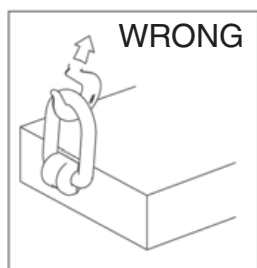

Figure 2
- Apply partial load and check proper alignment. There should be no interference between load (workpiece) and weld-on pivoting link (Figure 2).
- Apply partial load and check proper rotation and alignment. There should be no interference between load (workpiece) and hoist ring bail (Fig. 2).